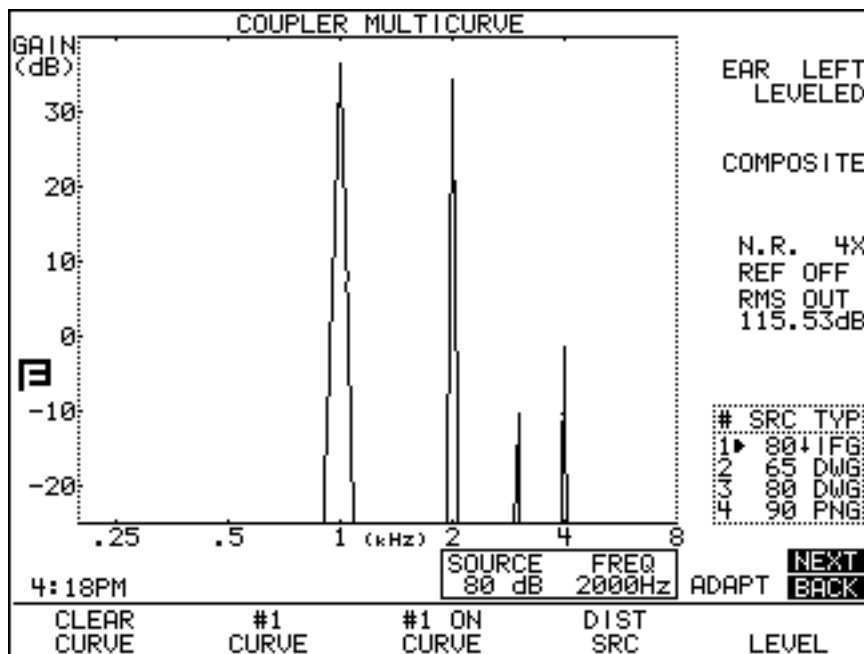

Figure 3.5.2—Measuring intermodulation distortion
11. Press [START/STOP] again to start the static IM distortion measurement. See Figure 3.5.2.